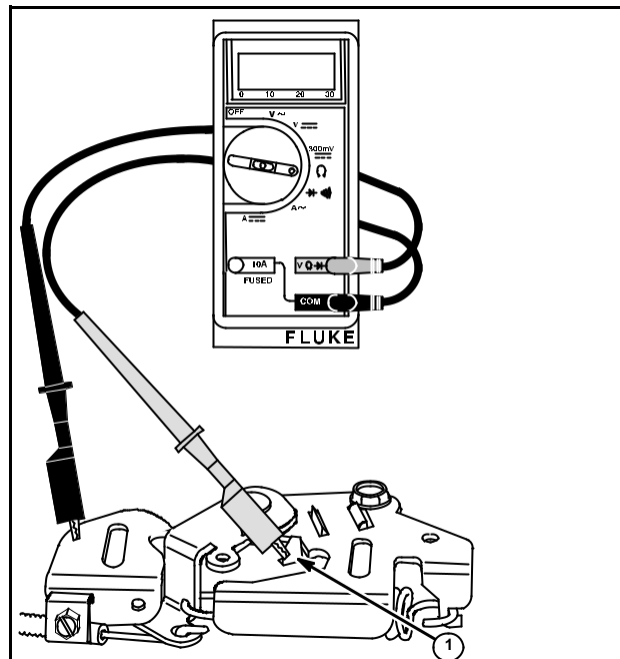

Fig. 33
2. Hold other test lead against stop switch tang, Fig. 33, while moving stop switch wire up and down. **DO NOT** pull on stop switch wire.
4. If meter reads open circuit, check for proper contact at stop switch tang (1) and engine ground.